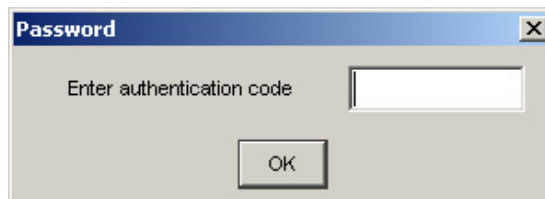

Figure 3-9: Password Dialog Box
- Step 5.** Enter "*root*" as the authentication code in the **Password** dialog box at the first time login, and click **OK** to login. (See *Figure 3-9*) The authentication code can be changed later in the utility. Only an administrator can access the notification settings.